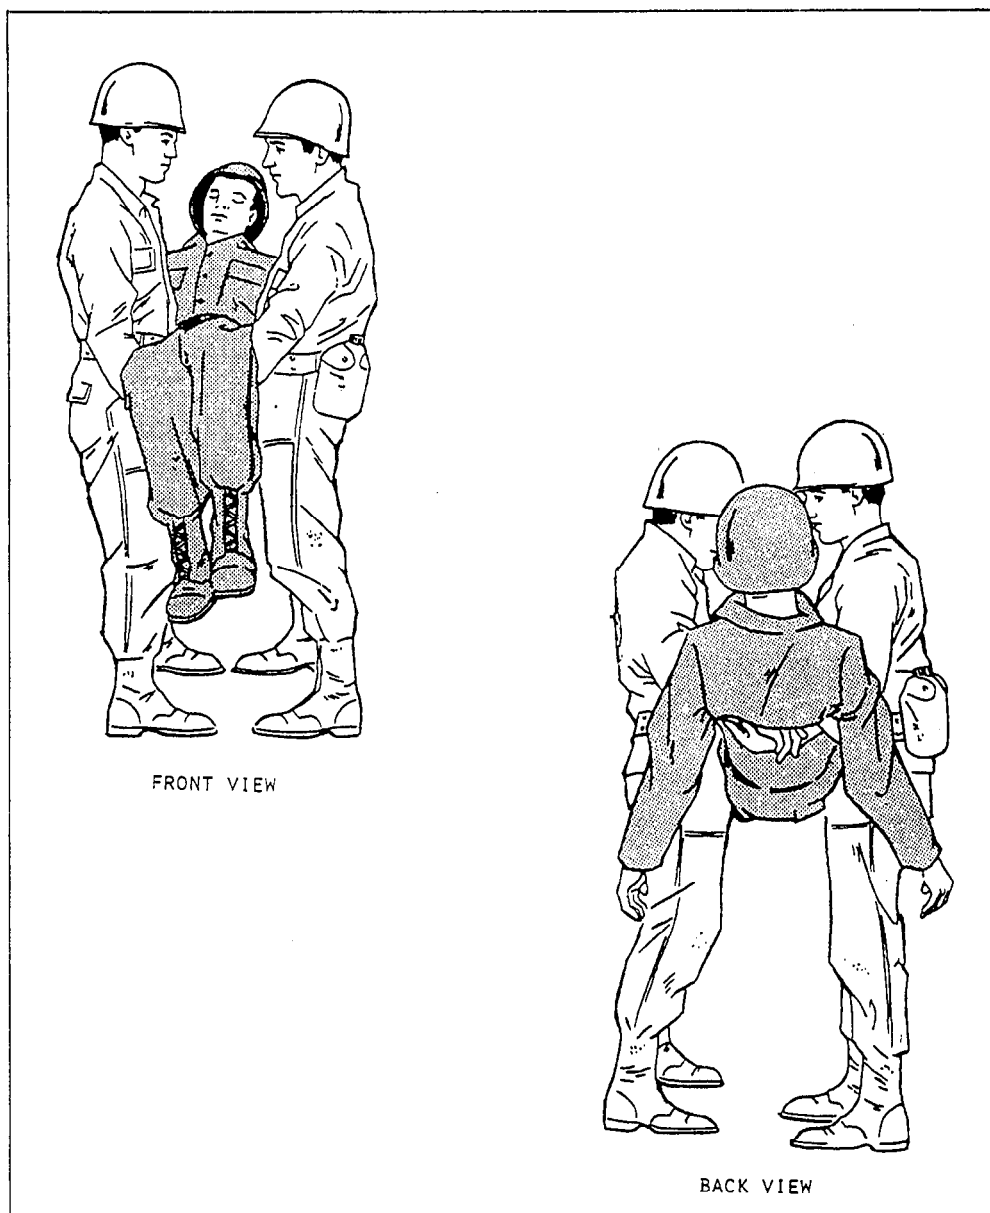

Figure 10-37.—Four-hand arms carry (front and back views).
1. Two men kneel on opposite sides of the casualty at his hips (fig. 10-37).